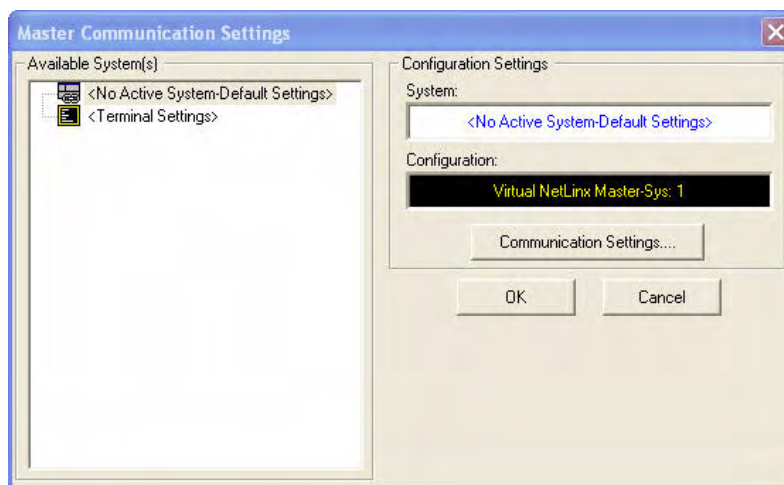

FIG. 21 Master Communication Settings dialog box
3. Select **Settings > Master Communication Settings** from the Main menu to open the *Master Communication Settings* dialog (FIG. 21).